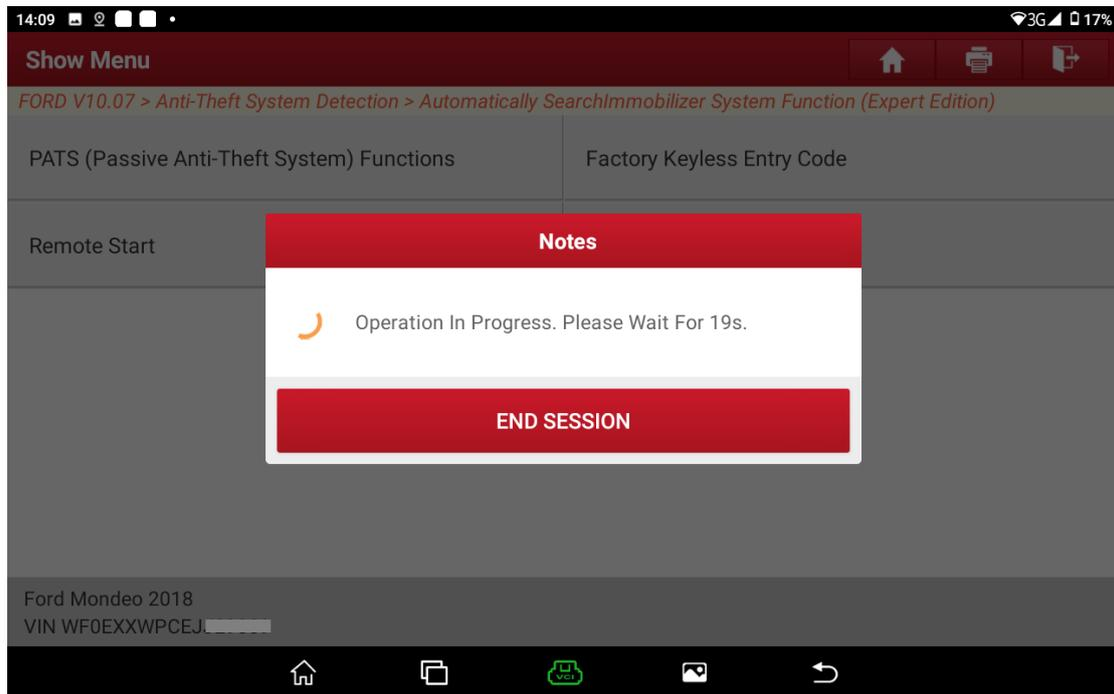

Figure A9
7. Prompt to wait for 20s. See Figure A9.